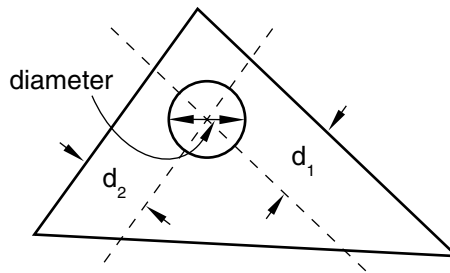

Figure 11-37 A circular hole feature.
- To create a circular hole, you enter the diameter of a hole and the distance of its center from two selected edges, as shown in Figure 11-37. Select **Shape**→**Cut**→**Circular Hole** from the main menu bar to create this type of feature.